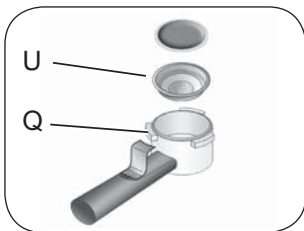

Fig. 14
- 1 In the filter holder (Q) insert the pod filter (U). Place the pod in the filter ring (Fig. 14).